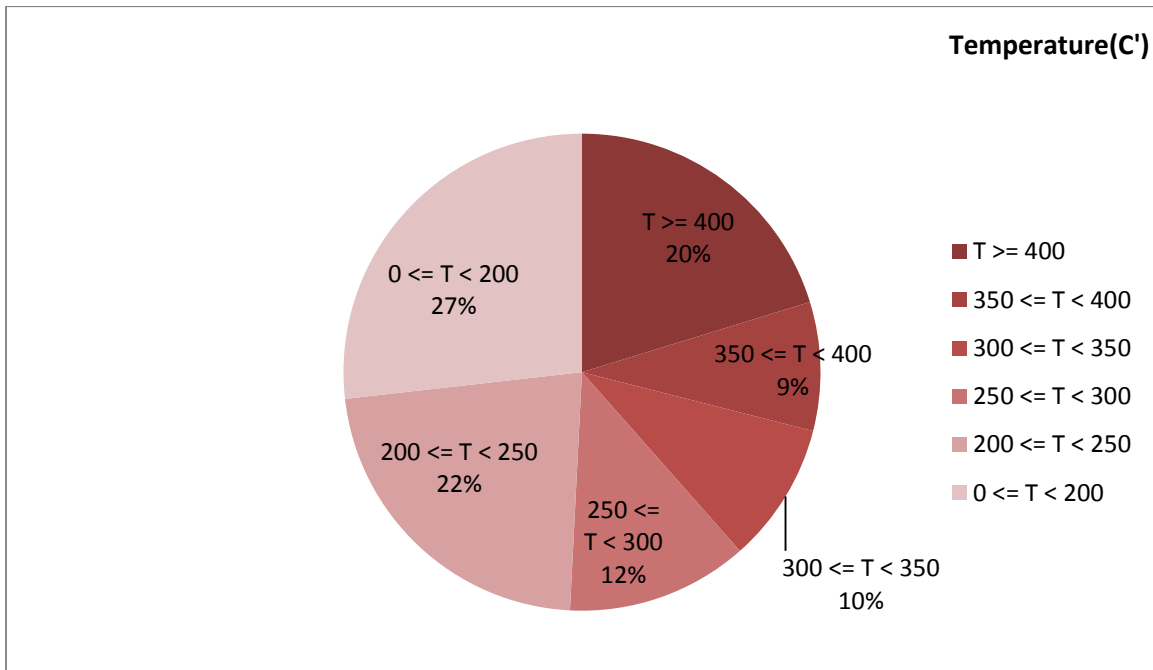

Figure 2-Temperature distribution over the working hours
- Figure 2 displays flow temperature before the DPF. It can be obviously observed that 20% of total working time temperature is above 400 °C and 29% above 350°C. Back pressure rise played important role at increasing flow’s temperature.